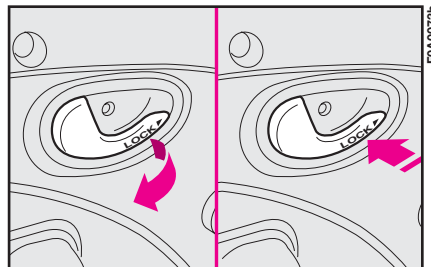

fig. 111
**Opening:** pull the opening lever fig. 111 and make the door slide backward to the stop limit catch.
**Closing:** close the door making it sliding forward, then press once the lever at "LOCK" as shown in fig. 111.